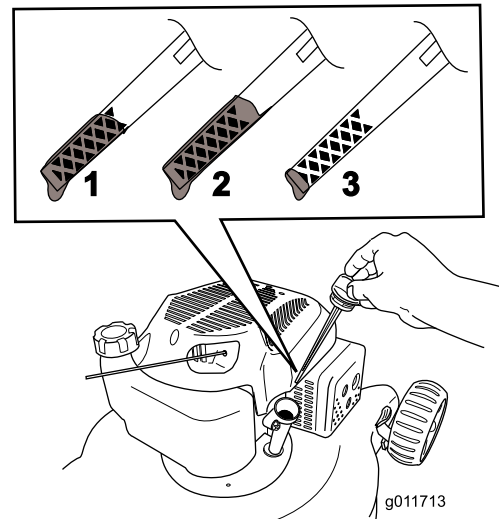

Figure 8
5. To determine the proper oil level on the dipstick, refer to Figure 8).
Note: Fill the engine crankcase with oil until the dipstick indicates that the engine oil level is correct as shown in Figure 8. If you overfill the engine with oil, remove the excess oil as directed in Changing the Engine Oil.